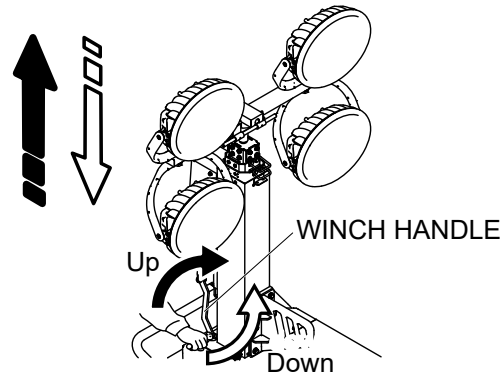

Figure 14. Raising and Lowering Mast
1. Turn the winch handle to raise or lower the mast (Figure 14).